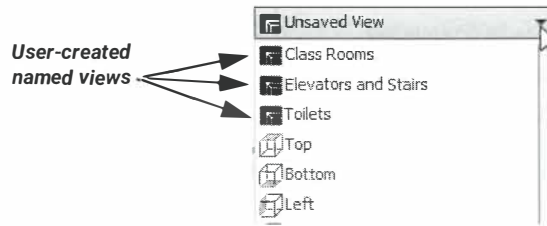

Figure 8-2
- Once the named views have been created, you can access them in the *Unsaved View* list, as shown in Figure 8-2.